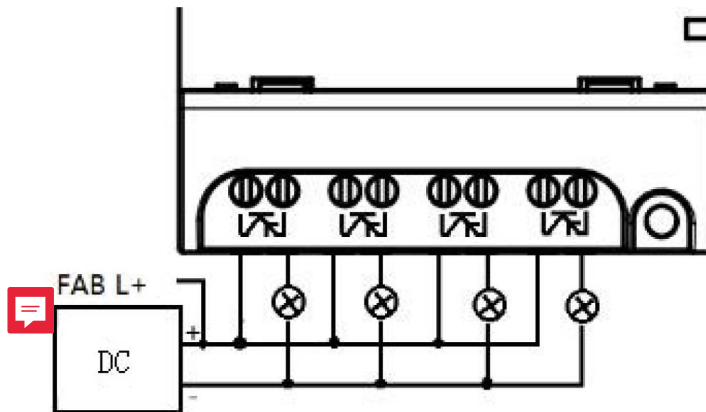

Fig 2.11 Transistor Output (GD type)
2) Type GD connection is shown in Fig 2.11